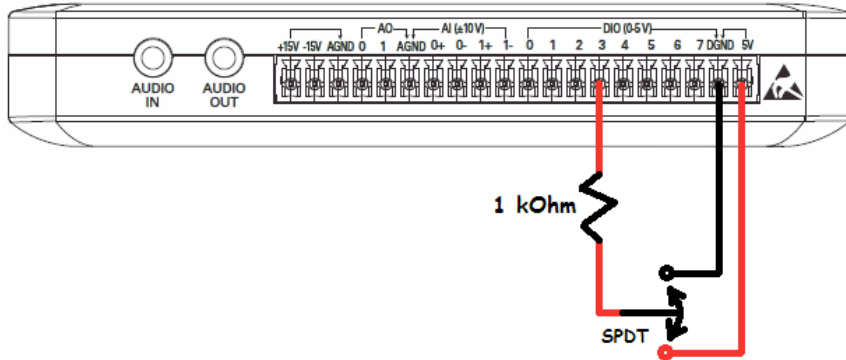

Figure 16. Counter Input Wiring
- Connect a 330 Ω resistor, SPDT switch in series to terminal **DIO 3** as seen in Figure 16.